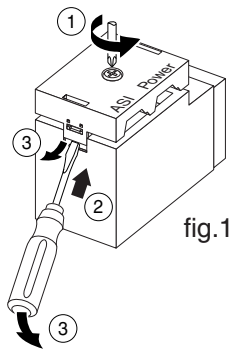

fig.1
- The connector is supplied with the cover pre-mounted. Remove the cover to connect the wiring (Fig.1).